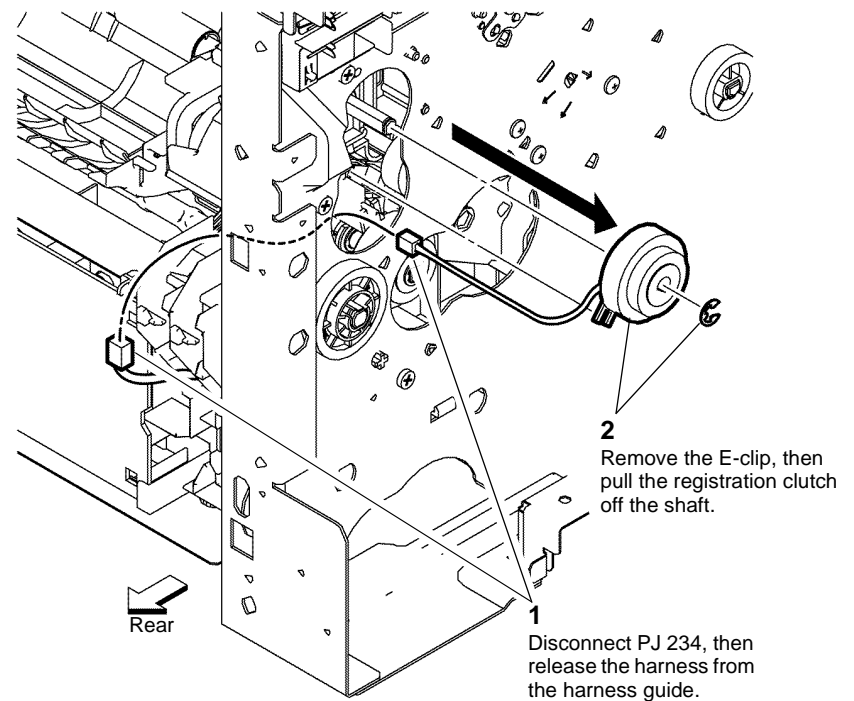

Figure 2 Registration clutch assembly
5. Remove the registration clutch assembly, Figure 2.